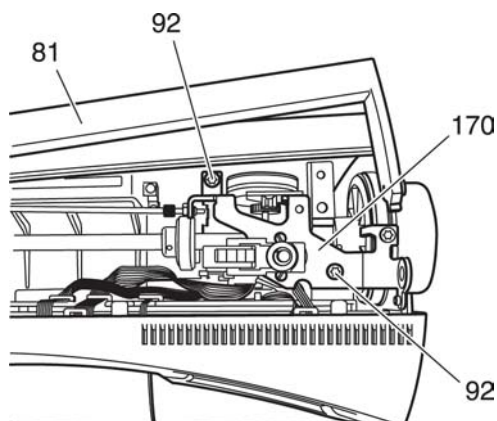

Fig. 48c
- Press the rear housing shell back until the rearmost screw 92 is visible (Fig. 48c).